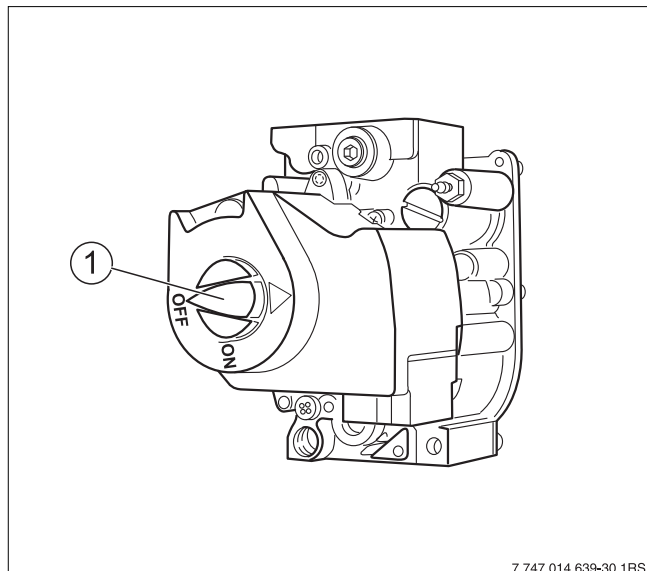

Fig. 2 Gas valve
- ▶ Never use force to operate the ON/OFF knob (→ Fig. 2).